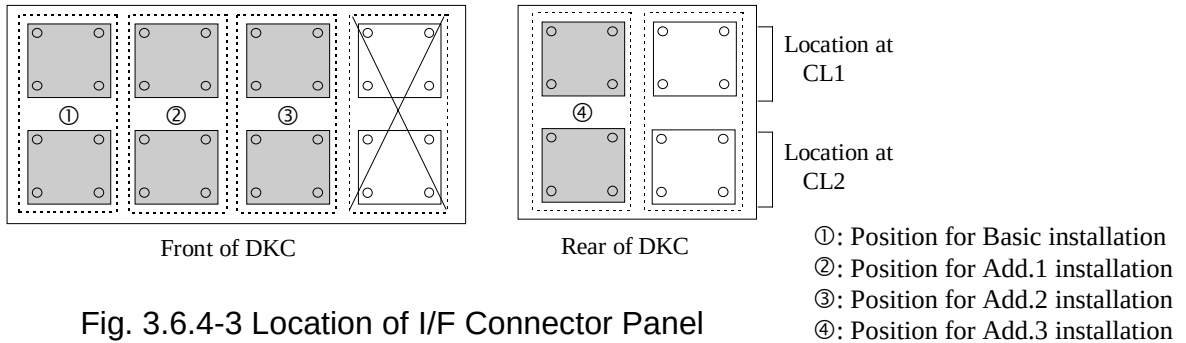

Fig. 3.6.4-3 Location of I/F Connector Panel
- Remove the dummy plate referring to Fig. 3.6.4-5.